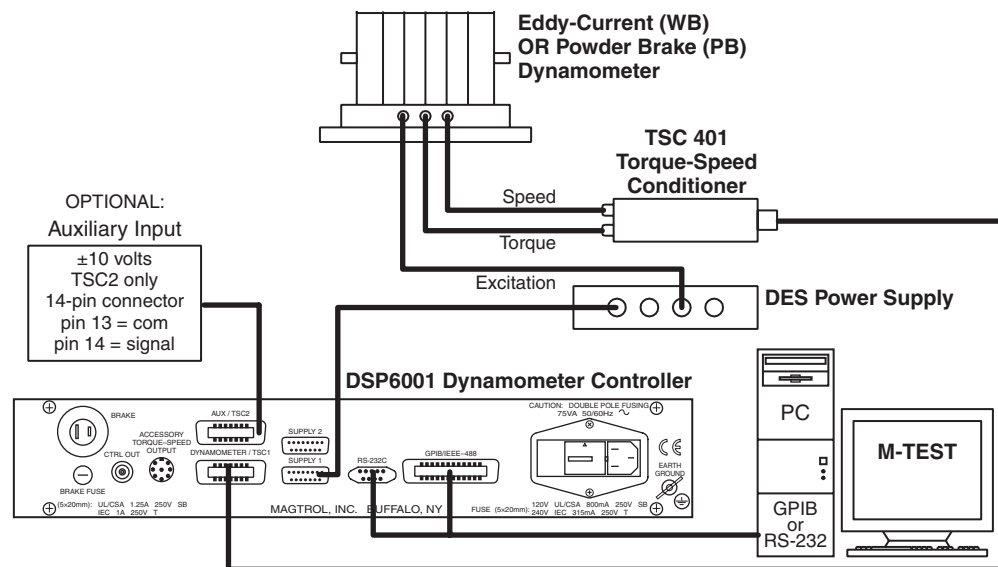

Figure 3–23 Eddy-Current or Powder Brake Dynamometer with Auxiliary Instrumentation Setup
10. Press SHIFT to complete the initial setup and return to the new main menu. See Figure 3–13 TSCI with TM2XX Output Menu.